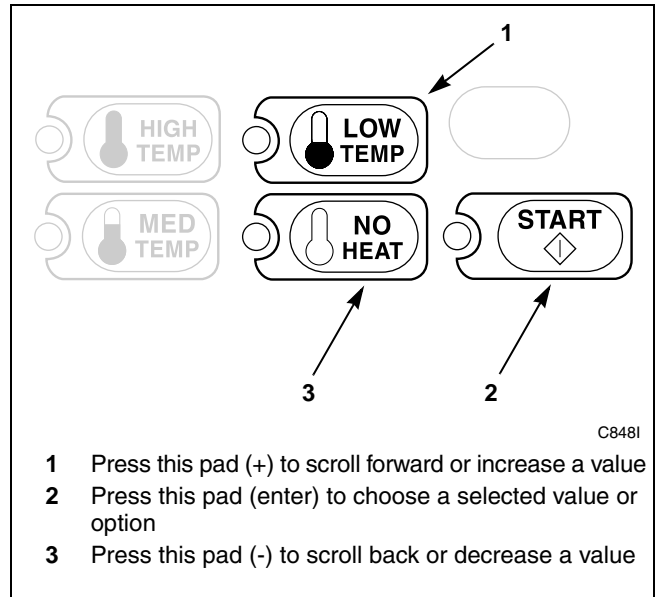

Figure 170
5. Press the LOW TEMP (+) or the NO HEAT (-) keypad to increase or decrease the current number of minutes displayed in the VFD to the desired number of minutes. Refer to *Figure 170*.
**NOTE: The Coin #2 TopOff Time can be set from one (1) to 60 minutes. The maximum amount of time, including the topoff time, is 99 minutes.**